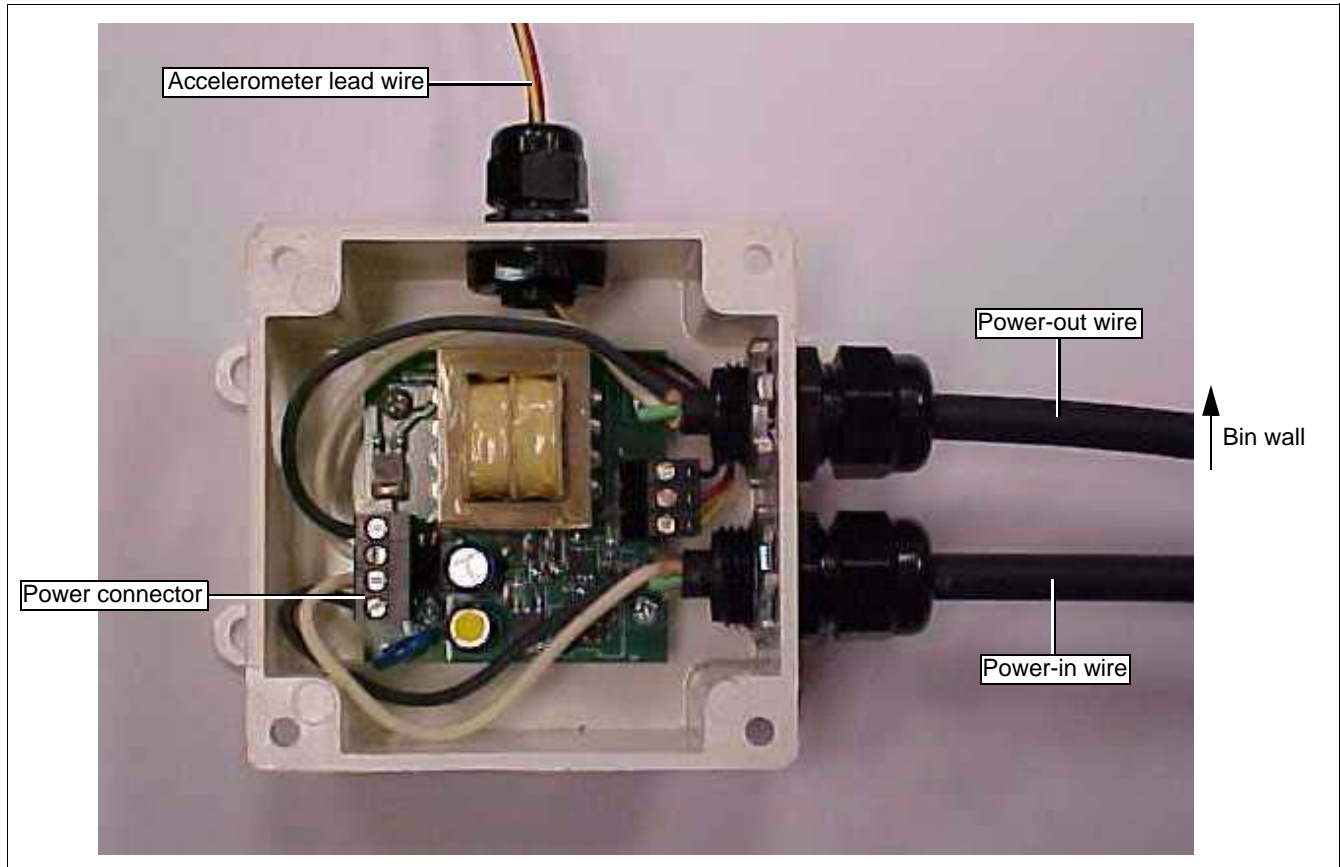

Figure 4 Electronic Controller Enclosure Assembly Power Wire Routing
- b. Install two (2) cable connectors, part #1EL0425, into the bin wall side of the fuse holder electrical box. Install one of these in place of the grommet through which the mercury tilt switch lead wires previously passed.
- c. Using the cable connectors just installed, route two (2) of wire (18/3), part #106E101, from the fuse holder box to the electronic controller enclosure assembly.
- d. Connect the black and white wires of one of the 18/3 wires to the black and white wires from the track drive power cord. (**NOTE: The green wire in this 18/3 wire will not be used.**) Leave the green wire of the track drive power cord connected to the track drive motor cord. Route the other end of this 18/3 wire through the right hand inner (bin center side) cable connector on the electronic controller enclosure assembly and connect the black and white wires to the power connector (4 terminal) on left hand side of the printed circuit board. Connect the black wire to the innermost (farthest from bin wall) terminal and connect the white wire to the inside terminal next to the black wire. (See Figure 4 on Page 4.) **NOTE: The top portion of the 4 terminal power connector pulls OFF for access.**
- e. Connect the other 18/3 wire to the fuse holders input lead wires. (Where the track drive power cord and mercury tilt switch wires were previously connected.) Route the other end of this 18/3 wire through the right hand outer (bin center side) cable connector on the electronic controller enclosure assembly and connect the black and white wires to the power connector (4 terminal) on left hand side of the printed circuit board. Connect the black wire to the outermost (nearest bin wall) terminal and connect the white wire to the inside terminal next to the black wire. *(See Figure 4.)* **NOTE:** Both white wires of the power-in and power-out 18/3 wires should be side by side.
- a. The 460 volt 3 phase, 575 volt 3 phase, and 380 volt 3 phase units all include a transformer to step the voltage down to 230 volt for the track drive motor. On these units, the Solid State Electronic Tilt Switch must be wired on the 230 volt output side of the transformer. If the transformer on the unit being retrofit is not wired with the mercury tilt switch on the 230 volt output side of the transformer, it must be rewired. Route the track drive power cord directly to the transformer. Wire the transformer according to the appropriate Wiring Diagrams on Pages 6-10 for the unit primary voltage. Route the 230 volt output power cord from the transformer back to the fuse holder box. The Solid State Electronic Tilt Switch can now be installed and wired according to the Step 5 on Page 3 for 230 volt units. The two (2) cable connectors, part #1EL0425, should be installed into the top of the fuse holder electrical box. The grommet through which the mercury tilt switch lead wires previously passed will not be used and should be plugged.